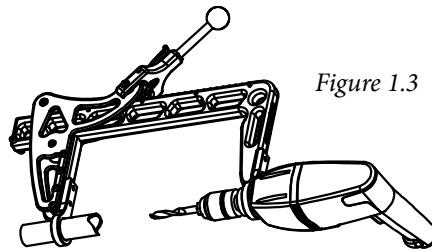

Figure 1.3
7. Determine final drill position relative to the lever of Rapidrill. Operators may prefer right hand or left hand drilling arrangements adapted to particular drilling positions or personal preference. This adjustment is easily accomplished by rotating the drill about the drill clamp collar and finally tightening the hex socket head fastener. (See Figure 1.3)